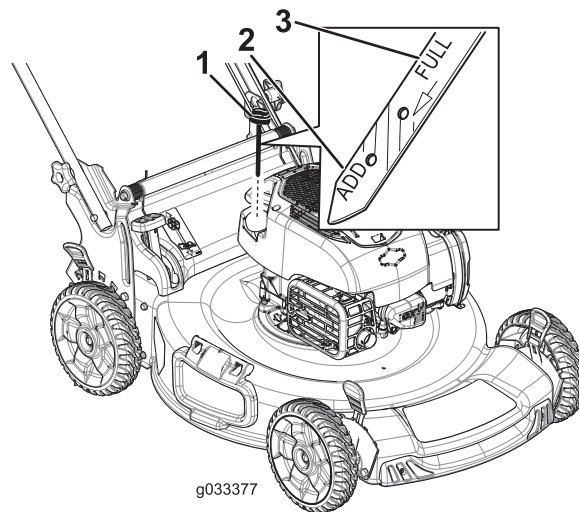

Figure 32
2. Remove the dipstick (Figure 32).
4. **Slowly** pour oil into the oil-fill tube until the oil level reaches the **Full** line on the dipstick (Figure 32). **Do not overfill.**